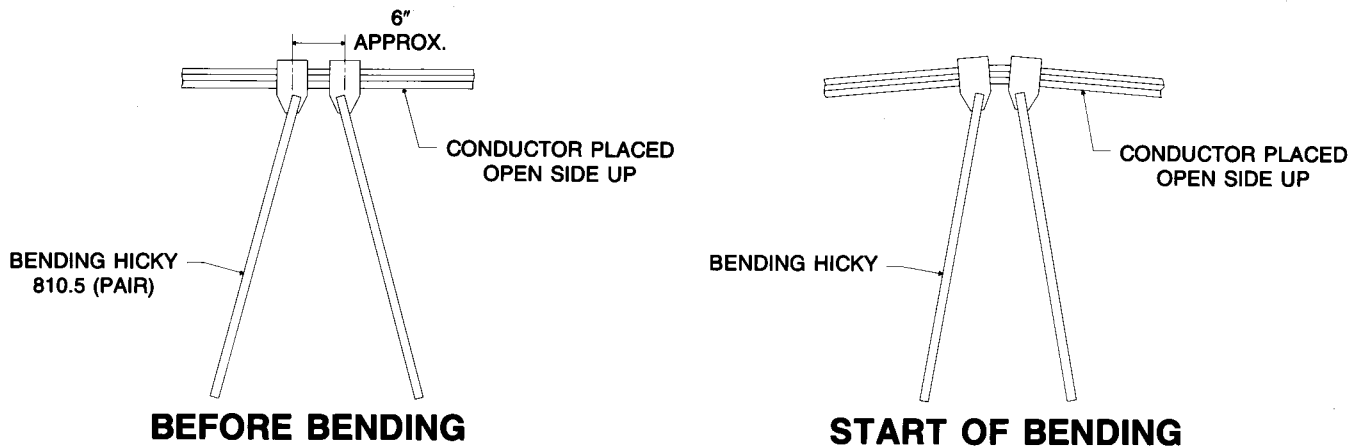
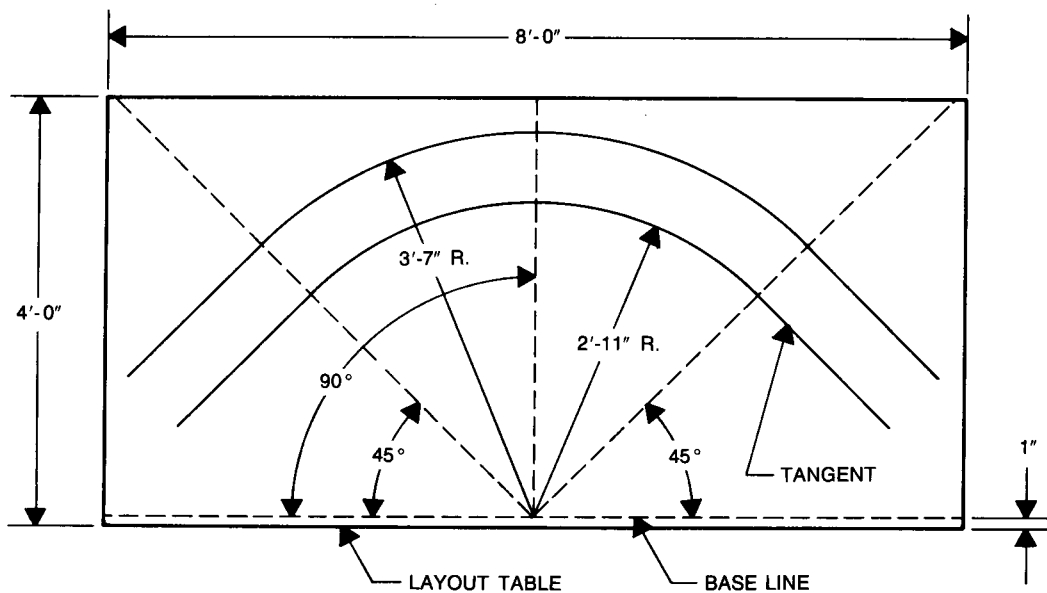

FIGURE 72
FIGURE 73
2. A bending hickey should be used to form curves. Refer to Figure 72. Use the floor or a work table to prepare a layout of curves required. Figure 73 shows an example for a standard 3'-4" radius track curve. Follow the 2'-11" radius scribed line for an inside curve and the 3'-7" radius scribed line for the outside curve. Use the near edge of the conductor bar section in lining up the conductor bar section with the scribed line. Lay conductor bar section on the layout with the open side up. Start bending at the center of the curve with the bending hiccys about 6" apart, as shown in Figure 72. Form a short segment of curve. Make short bends progressively both ways from center, checking against guide line. Care must be exercised not to kink or spread the conductor bar. Where spacer insulators occur, shift hickey to miss spacer. After curve is formed, square off and cut ends. Assemble splice dowels and support insulators. When squaring and cutting ends of curved sections or fitting short pieces at the end of a run, use a hand saw.